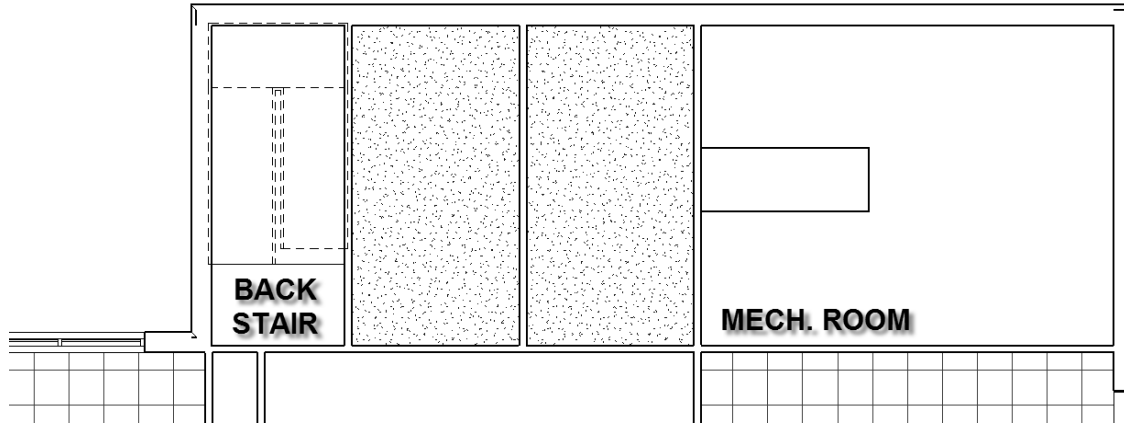

Figure 7-4.10 Gyp. Bd. Ceiling
26. Pick the two toilet rooms as shown in **Figure 7-4.10**.